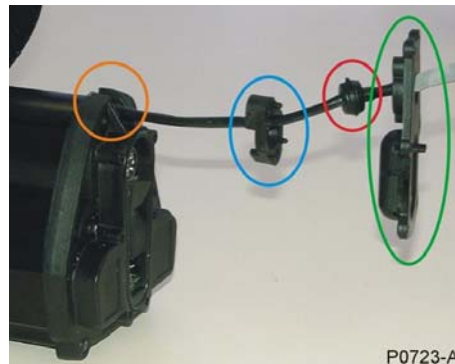

Figure 37: Correct Placement of Wiring Loom (Orange), Ribbon Cover (Blue), Split Grommet (Red) and Bulkhead Cover (Green)
- Having threaded the new wiring loom, attach the ribbon cable cover, split grommet and bulkhead cover in the order shown in Figure 37.